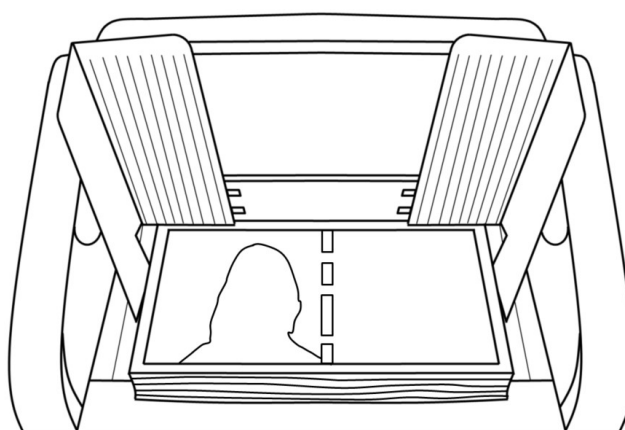

Figure 7
- 3) In the process of counting, it is necessary to adjust the limit positions of the left and right note guider according to the maximum size of the current banknotes to ensure that the banknotes can be accurately identified by relevant sensors. Taking US dollars as an example, please sort out the banknotes first, and then adjust the limit position of the note guiders according to the largest size banknotes. Finally, put the banknotes into the hopper for counting, as shown in Figure 7: